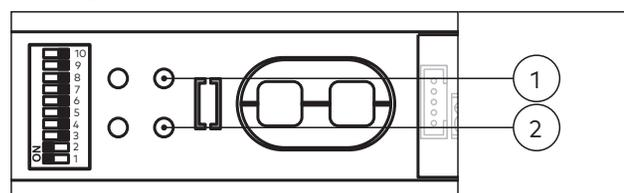

Fig. 61 Set the speed and the hold-open time
1. Set the speed on the speed potentiometer (Fig. 61/1).
2. Set the hold-open time on the hold-open time potentiometer (Fig. 61/2).